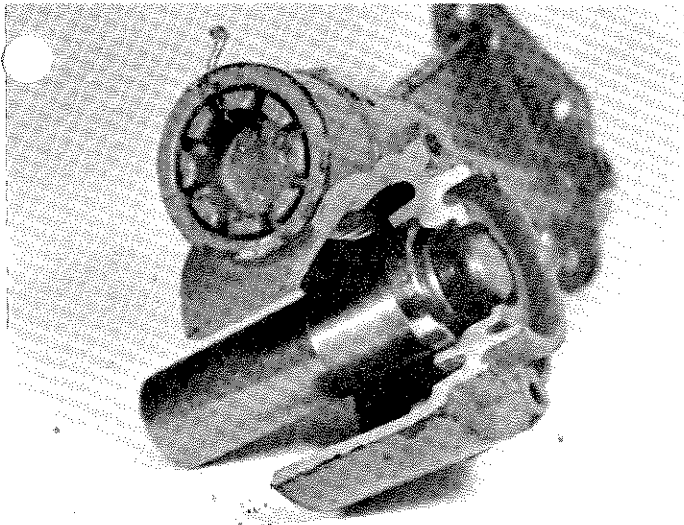

FIG. 4
8. Coat new seals with oil and install (lip to inside) in cover (Ref. P) and gear case (Ref. Q) with special seal driver tool #31356. (See Fig. 4 & 5)
9. Coat new seals with oil and install in cover (Ref. F) and gear case (Ref. E) with special seal driver tool #31356. See Fig. 4.